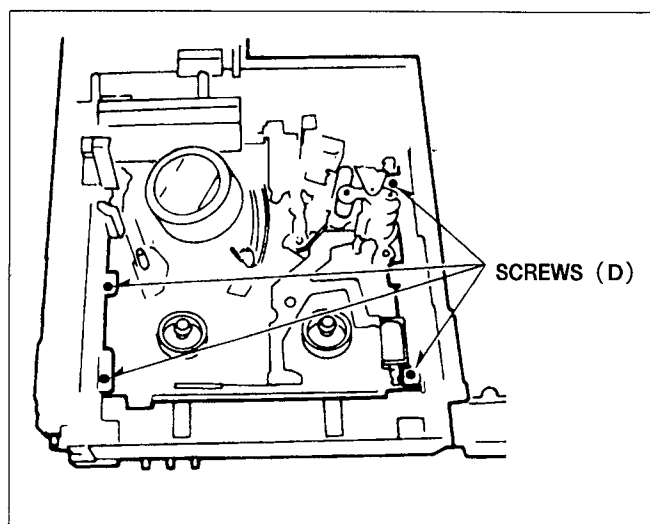

Figure M50-H
5. Tighten the 4 screws (D) as shown in Figure M50-H.